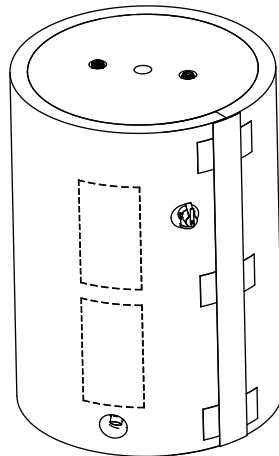

Figure 4
4. Insulate top of water heater by placing top insulation as shown in Fig. 4.